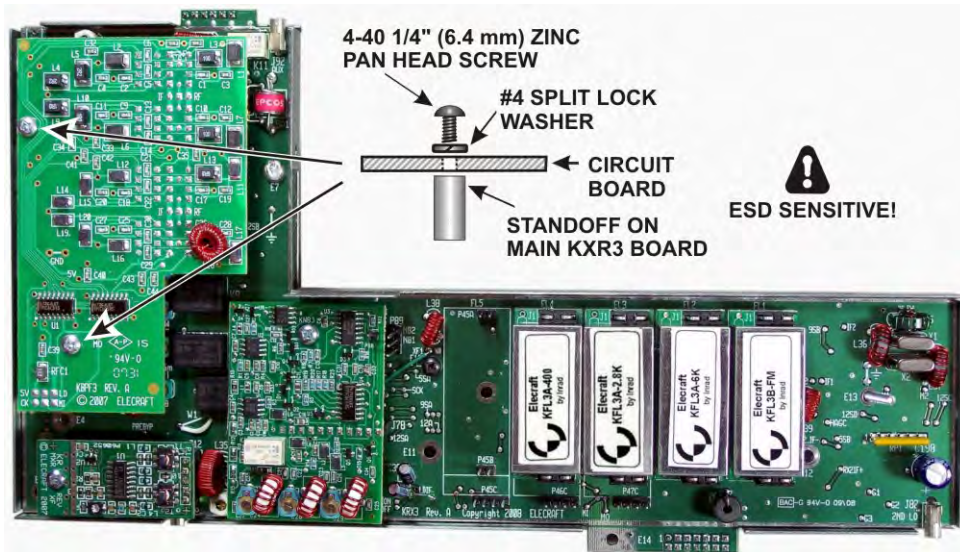

Figure 41. Mounting the KPBF3 Board.
- If you have the KPBF3 option, install the board now with 4-40 1/4" (6.4 mm) pan head screws and #4 split lock washers as shown in Figure 41. These screws and washers are supplied with your KBPF3 option. Be sure all three connectors on the KPBF3 are properly mated with their counterparts on the KRX3 board.